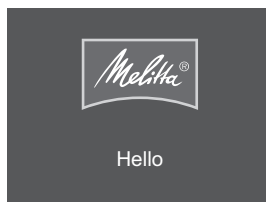

Fig. 5: Welcome display
2. Press the ON/OFF button (10).
- » The welcome display appears on the display (see Fig. 5).